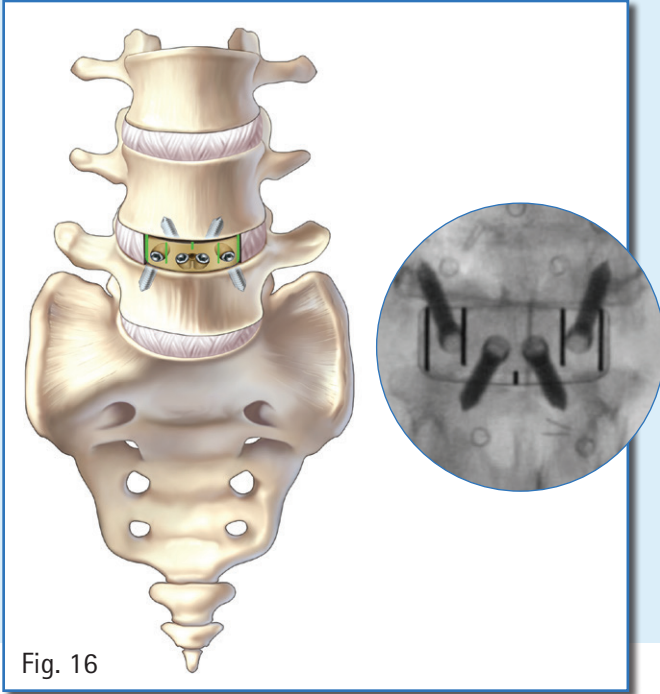

Fig. 16
- The final AP image should confirm midline placement of the device (Fig. 16).
- The final AP and lateral images should reflect neutral alignment of the Arcadius^{XP} L construct (Figures 16 and 17).
Note: The green lines in Figures 16 and 17 represent the location of the implant x-ray markers in both the AP and lateral views.